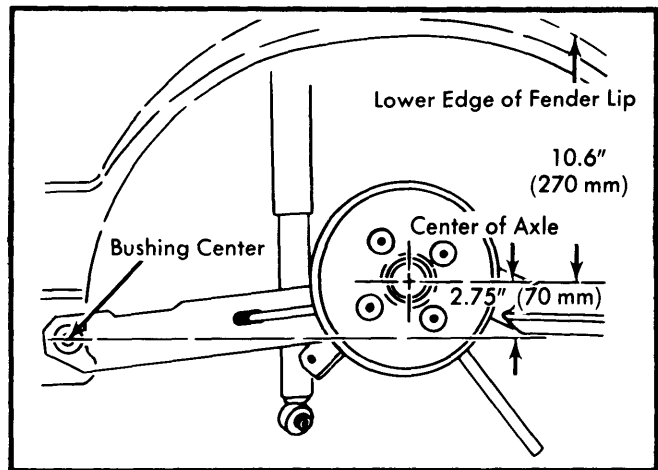

Fig. 2 Measurement Points for Installing Rear Axle Beam
2) Lift axle beam until center of axle (See Fig. 2) is 2.75" (70 mm) higher than center of bushing in trailing arm. Check distance between axle center to lower edge of fender lip. Distance should be 10.6" (270 mm). Tighten bolts. **NOTE** - ONLY tighten bolts with axle located in this position.